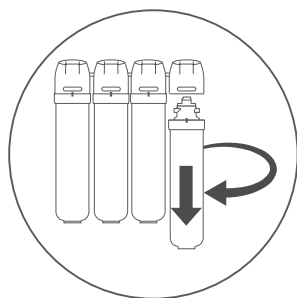

Figure.9
2. Remove the shrink wrap and protective cap from the new filter.(Figure.9)